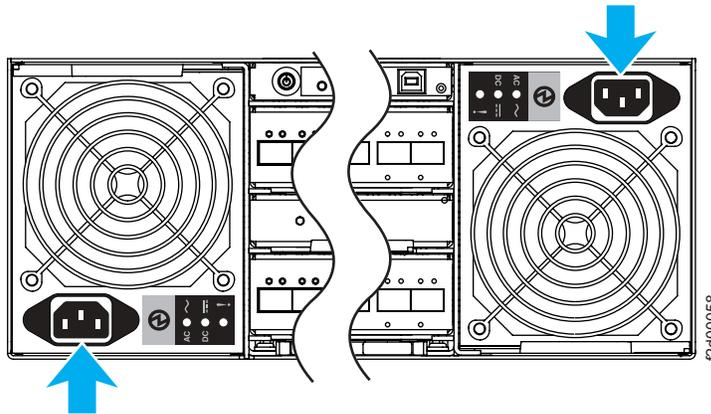

Figure 9. Power cord locations for the server and expansion enclosures
1. If you have not already done so, attach the power cords to the server and expansion enclosures. Figure 9 on page 64 shows the power cord locations.